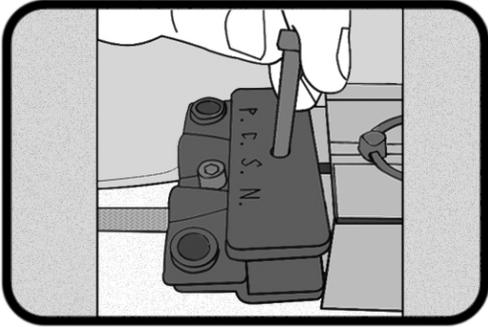

Fig. 4
**Step 4:** Use a 1/8" Allen Wrench or Phillips screwdriver to remove the upper Screw on the Guide. **(Fig. 4)** Slide the Guide away from the Track end.